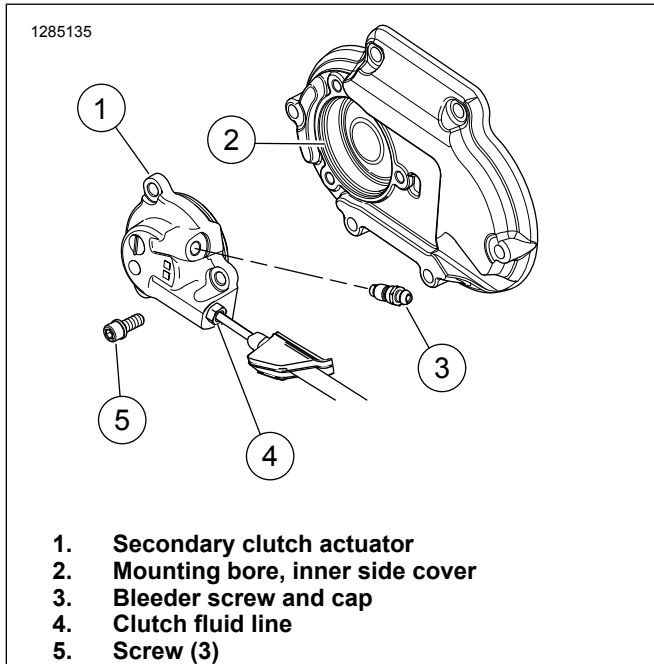
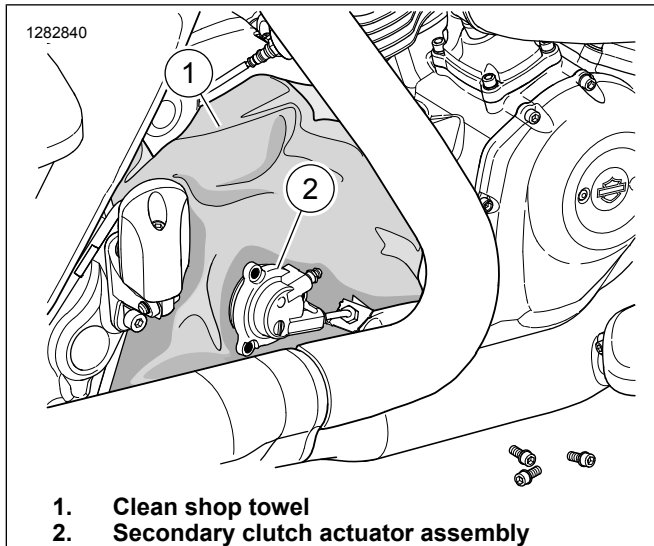
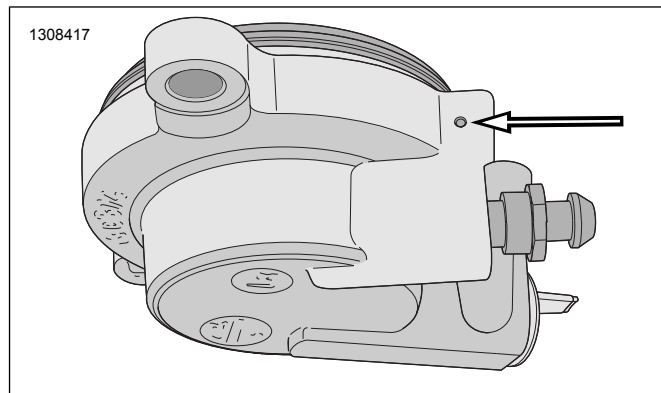

Figure 1. Secondary Clutch Actuator
Figure 2. Towel In-Place on Transmission
**Figure 6. Secondary Clutch Actuator Torque Sequence**
- **Do not disconnect clutch fluid line (4).**
2. Refer to Figure 1. Remove secondary clutch actuator (1) from inner side cover mounting bore (2).
- a. Remove screws (5) and secondary clutch actuator.
3. Refer to Figure 2. Place **clean** lint free shop towel over transmission inner side cover at secondary actuator bore.
2. Refer to Figure 1. Install secondary clutch actuator (1).
- a. Lubricate mounting bore (2) in the inner side cover with a film of transmission fluid.
- b. Install secondary clutch actuator (1) and screws (5).
- c. Refer to Figure 6. Draw screws down evenly to prevent binding and possible breakage of mounting ears. Tighten in sequence as shown.